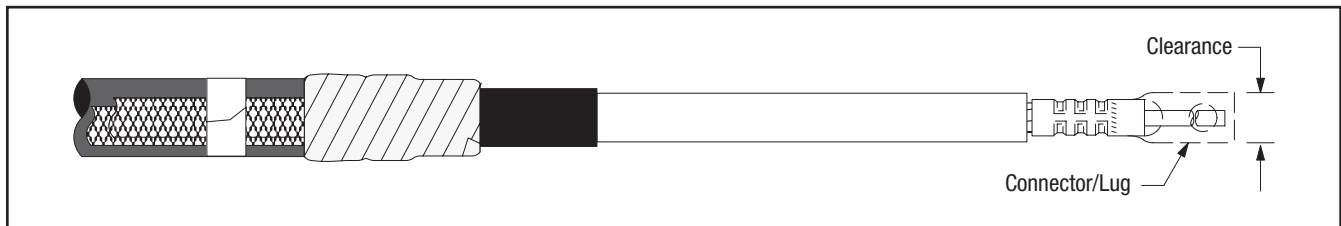

Figure 6
4.1 Check to insure 3M™ Cold Shrink QT-III Termination Assembly fits over the selected lug or connector. If lug or connector (Figure 6) will not fit through the termination core, clean the insulation (per Step 5.0) and slide termination on cable before installing lug or connector. **DO NOT REMOVE CORE AT THIS TIME.**